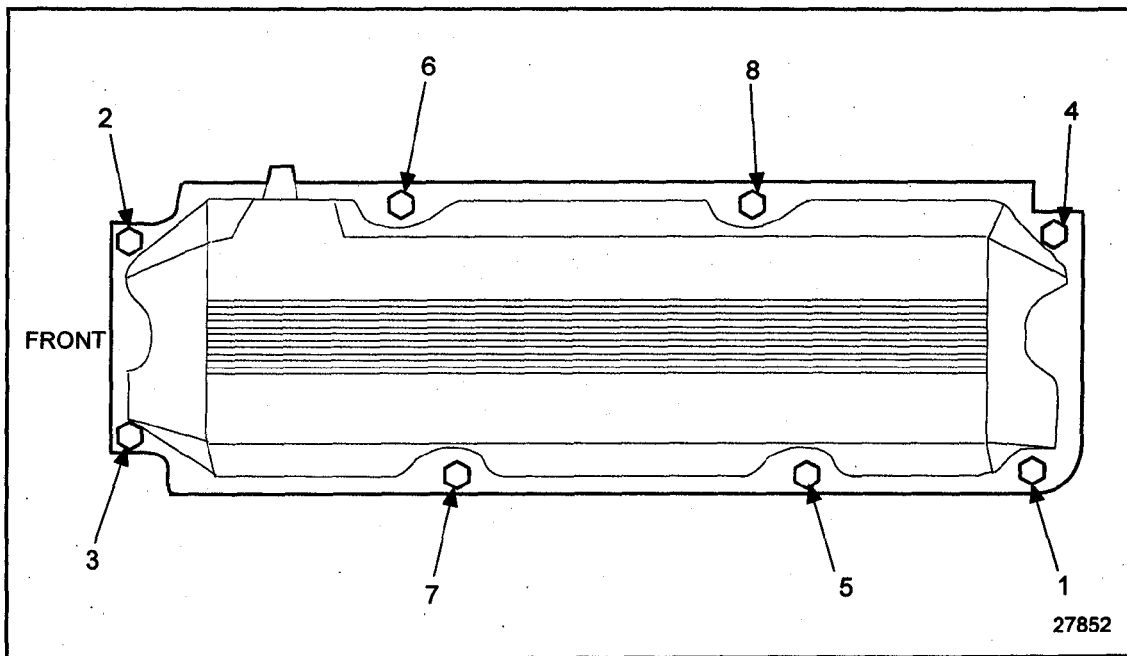

Figure 1-111 Rocker Cover Bolt Cap Tightening Sequence
2. Install the rocker cover cap to the base. Install the eight bolts that attach the cap to the base, and torque to 22-25 N·m (16-18 lb-ft) using the torque sequence. See Figure 1-111. Tighten the bolts in two stages, using half-torque value first. The same procedure applies to the intermediate cover installation.